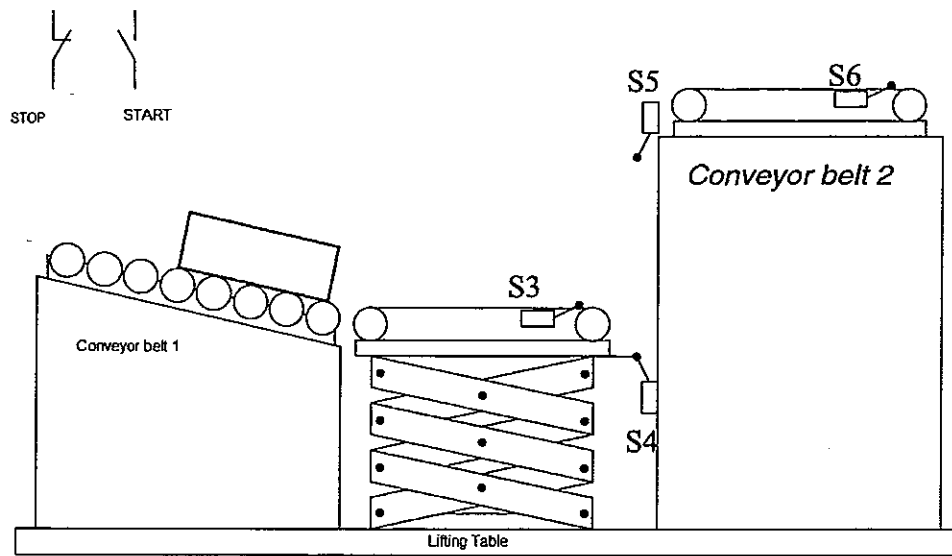

Figure 2.1
2. A conveyor transportation system which is controlled by an Omron Programmable Logic Controller is shown in Figure 2.1. The object is sliding down on conveyor 1 to a lifting table at the centre. When sensor S3 sensed the presence of the object, the lifting table which is powered by a pneumatic cylinder push the object up and reach at a position which is sensed by sensor S5. Conveyor belt 2 will start and until sensor S6 sense the object. Sensor S4 is used to detect the original position of the lifting table. A normally closed stop switch and a normally open start switch are used to control the start and stop of the system. A start button will start the process in continuous cycle until a stop button is pressed. The object is made from metal.